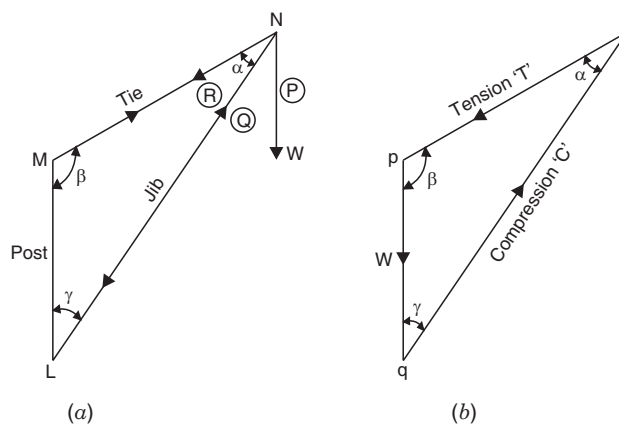

Fig. 3.2
7. Select a suitable scale and draw  $pq$  parallel to  $ML$  (direction of weight  $W$ ) and cut equal to  $W$ ; draw  $qr$  parallel to  $LN$  and  $pr$  parallel to  $MN$  meeting at  $r$ . Then vectors  $pr$  and  $qr$  parallel to  $LN$  and  $pr$  parallel to  $MN$  meeting at  $r$ . Then vectors  $pr$  and  $qr$  represent forces in tie (tension) and jib (compression) respectively. Refer to Fig. 3.2.